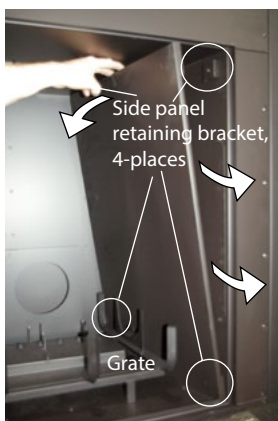

Figure 24a. (Removing interior stand-off panels).
Step 2. Tilt the panel out from the top, and remove the panel from the firebox. Pull out of the firebox straight, toward you without hitting the Grate or panel Retaining brackets, **Figure 24a.**